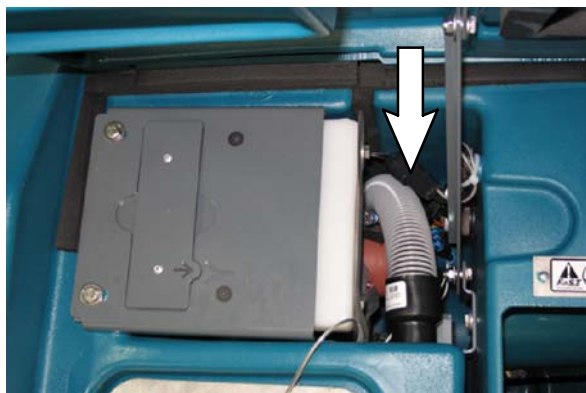

FIG. 1
2. Route the jumper harness (1) down along the vacuum fan hose and straight down to the floor. Refer to Fig. 1.